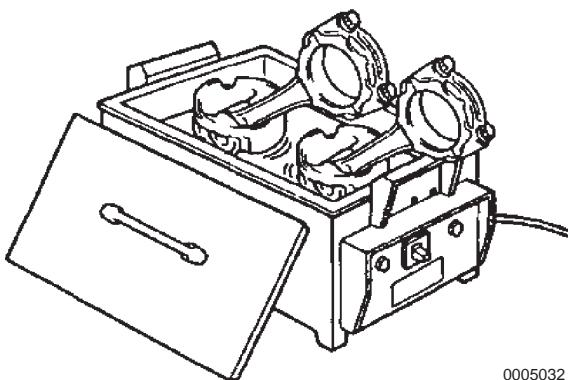

Figure 5-109
5. Slowly heat the piston to about 80°C (176°F) (Figure 5-109).